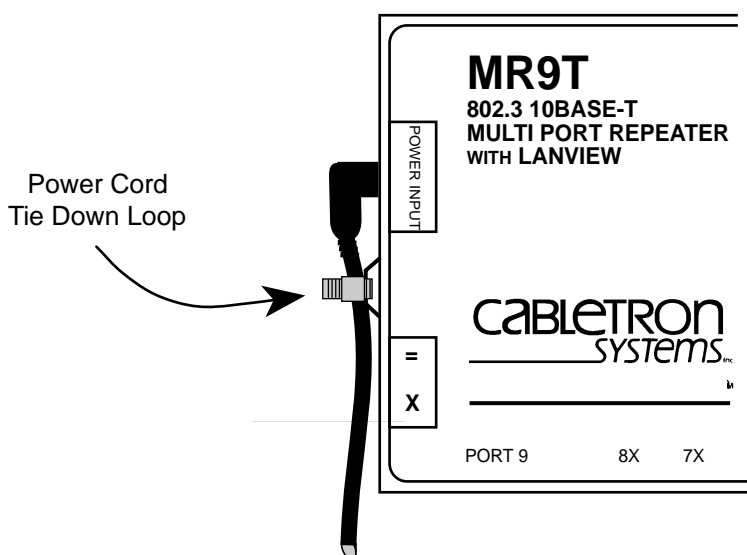

Figure 3-1. Tying Down the Power Cord
1. Plug the power cord (Figure 3-1) into the power receptacle located on the side of the MR9.
To eliminate the possibility of accidentally disconnecting the MR9 power cord from the repeater, use one of the cable tie wraps to anchor the power cord to the MR9 case. Figure 3-1 shows you how strap the power cord to the tie down loop.